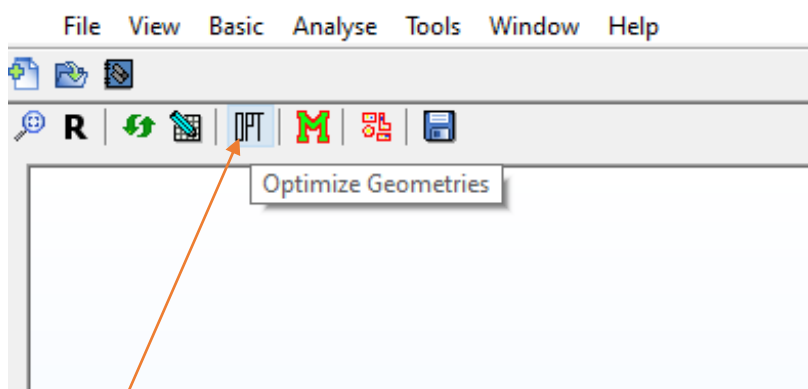

Figure 23
- Click on **OPT Optimize Geometries** in the *Main Toolbar* (Figure 23) to start the optimization process.